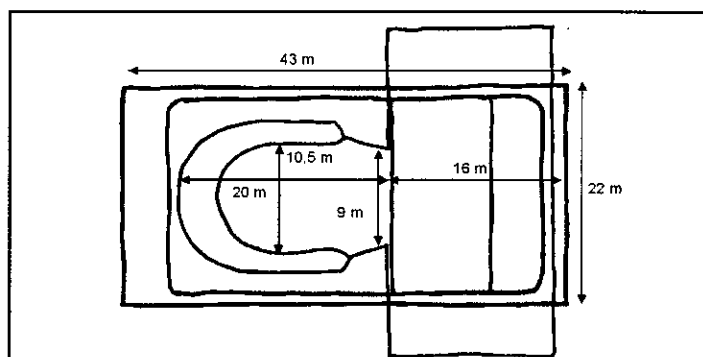

Figure 1
In the concert hall for classical music loudness should have a defined value, determined by the size of a symphonic orchestra and the number of seats. Values of G to achieve in symphonic concert halls are from 2 to 5 dB, and for chamber music from 6 to 9 dB. Very large concert halls generally have a loudness level that is too low. For that reason it is important to limit the size of concert halls, but the effectiveness of the absorption can also influence the loudness of a hall. Rigid criteria for the dimensions of concert halls are hard to give. For symphonic music goals are a depth of 40 to 45 metres, a width less than 25m, and a maximum height of 15 to 20 m. Figures 1 and 2 give schematic examples of a thousand-seat concert hall (*Muziekcentrum Enschede* (NL)) and a small theatre.
For theatres in which the spoken word is natural, an acoustic must be created that is as loud as possible, because of the limitations in the sound power of the human voice. But the acoustic should also have as much as possible direct (and early) sound and minimal (late) reverberation, because sound which is too reverberant may degrade speech intelligibility. The reverberation time should generally be limited to less than 1 second. In that case, provided there is sufficient loudness of the hall, the intelligibility of the reverberant (speech) sound will still be good, even at the furthest distances where direct sound is not relevant. According to the basic statistical laws of room acoustics the best space for speech therefore is as small as possible, with reflective walls and ceiling, the only sound absorbing area being the audience. Additional absorption should be limited as much as possible, to maintain loudness and strength of early reflections. RT values above 1.0s are undesirable because then AL_{cons} increases above 9% to 10% at the greatest distances. Although rigid criteria are hard to give, because a certain adaptation of the voice is well possible, the best theatres for classical plays are all smaller than 4000 - 5000 m³, with a reverberation time of 1 second or less. Related demands for their dimensions are a depth of the hall less than 23m, a width less than 20m, a height under 13m, a width of stage opening less than 14m and a maximum room volume of 5m³ per person. Amongst these theatres, those with $RT60$ values of 0.8 to 0.9 seconds have a noticeably better intelligibility ($AL_{\text{cons}} < 7\%$), as is illustrated in the example of the *Stadsschouwburg* in The Hague. In this theatre AL_{cons} values between 3% and 5% were measured, as a result of added early reflections. The dimensions of this intimate theatre are schematically drawn in Figures 1 and 2 (green lines), together with those of a concert hall (red lines). The comparison between the two halls illustrates the contradictory requirements and the challenges when these two different uses have to be combined in one multi-purpose hall.